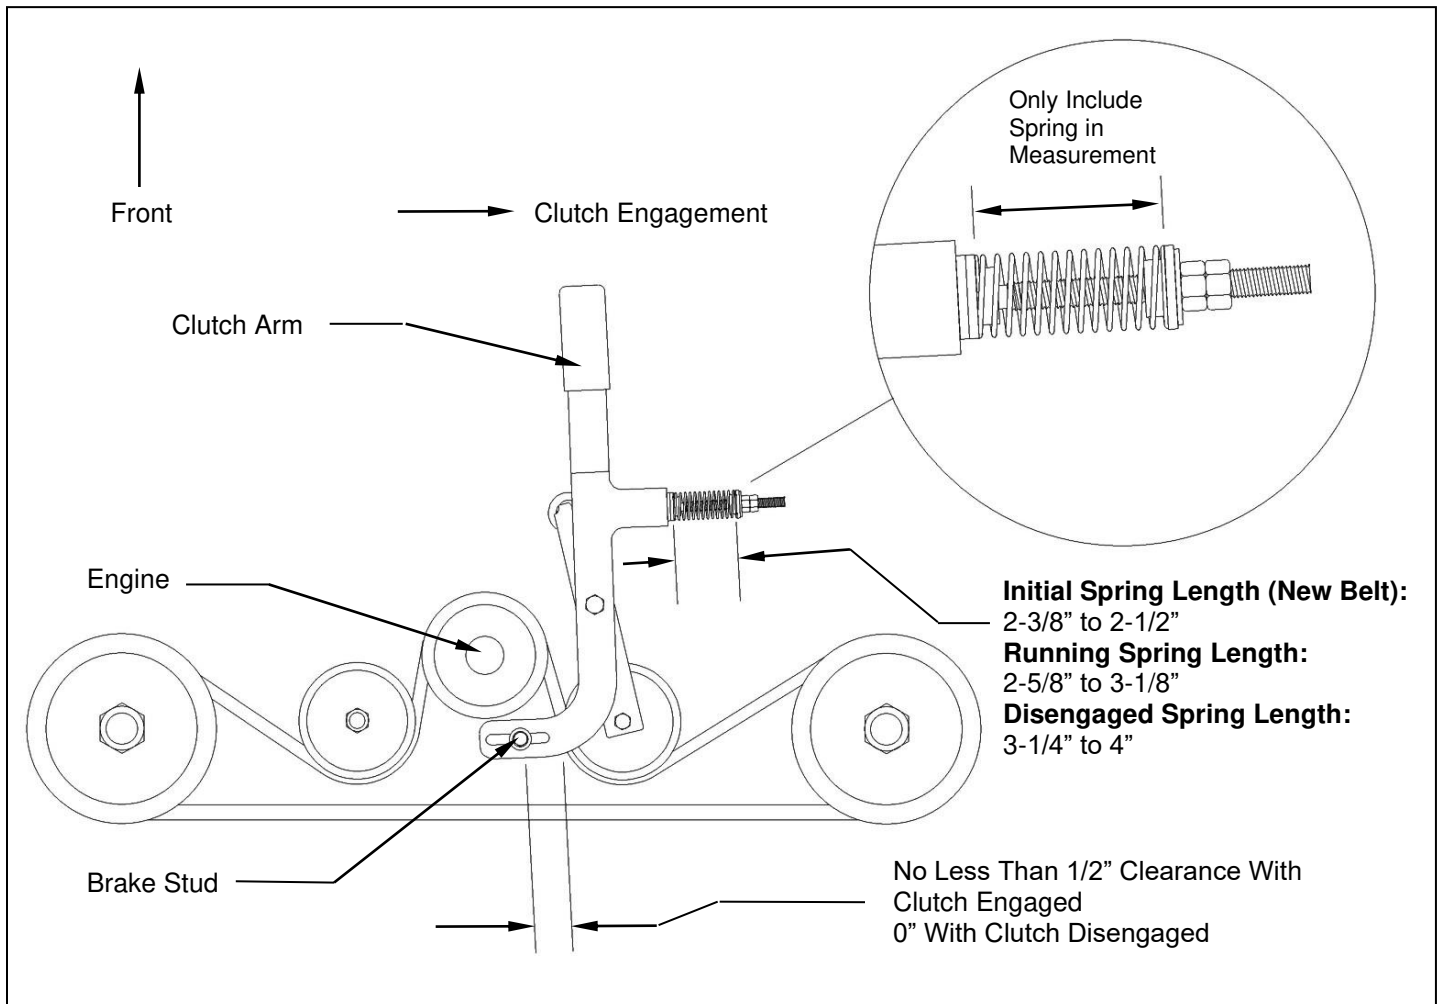

Figure 7: Belt Pattern, Spring Adjustment, and Brake Adjustment
A. DRIVE BELT REMOVAL AND TENSION – Refer to Figure 7
Install the new belt and then adjust the tension as follows: **See Figure 7.** Take special care to make sure that the belt is placed between the brake stud and the idler pulley.